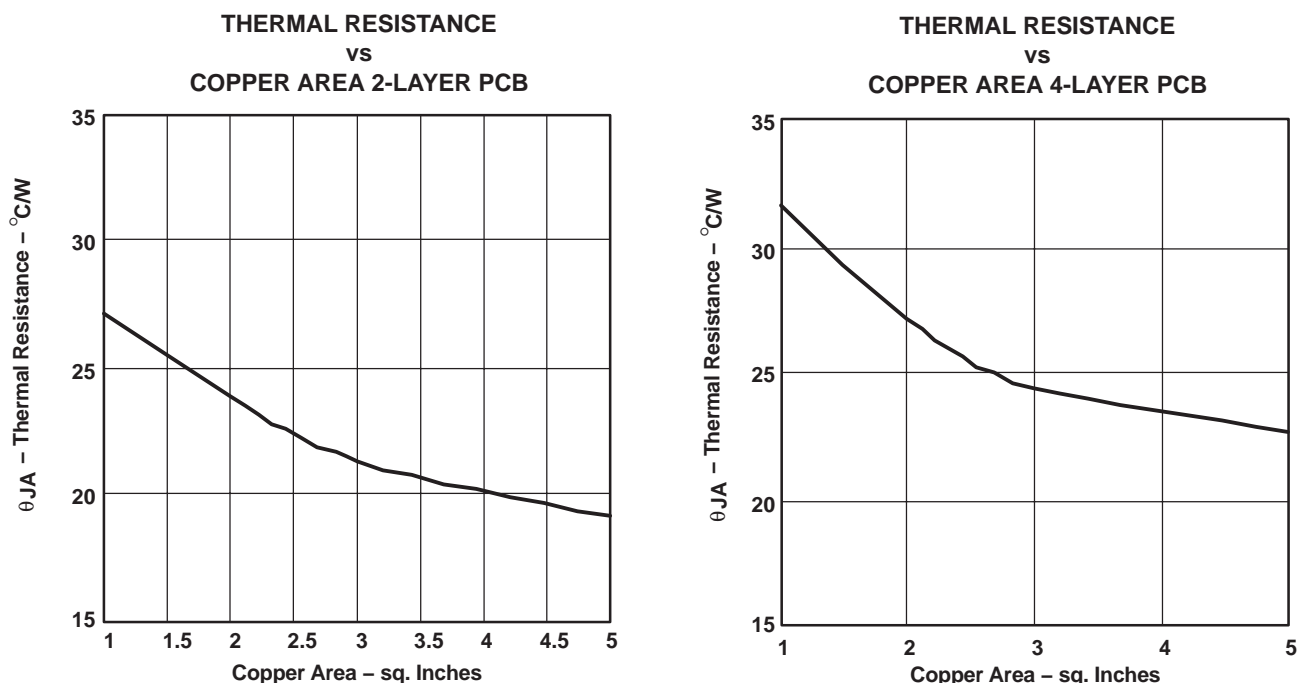
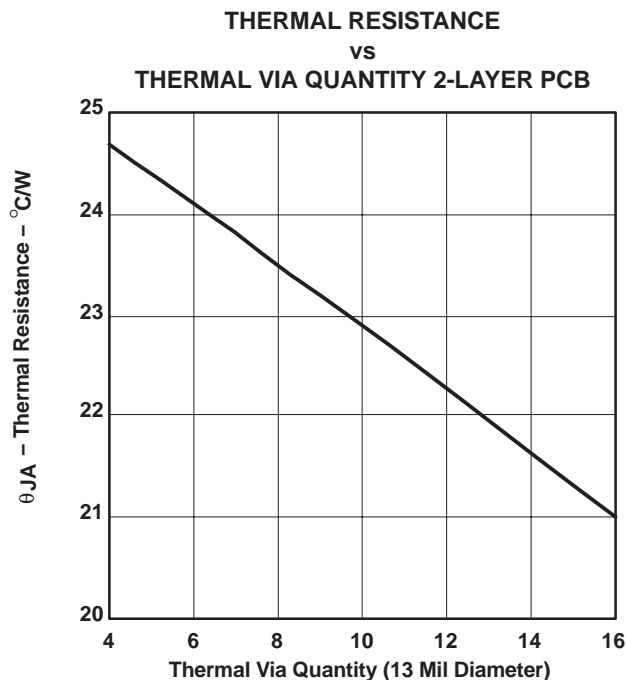

Figure 38. Thermal Resistance
Figure 39. Thermal Resistance
$$\Theta_{JA} = 19^{\circ}C/W \quad (2\text{-Layer PCB, 5 sq. in. copper, see Figure 38)} \quad (8)$$
Figure 38 and Figure 39 show the results of several thermal experiments conducted with the TPA3002D2. Both figures show that the best thermal performance can be achieved with more copper area for heat dissipation and an adequate number of thermal vias.
Figure 38 shows two curves for a 2-layer and 4-layer PCB. The 2-layer PCB layout was tightly controlled with a fixed amount of 2 oz. copper on the bottom layer of the PCB. The amount of copper is shown on the x-axis. Nine thermal vias of 13 mil (0,33 mm) diameter were drilled under the PowerPad and connected to the bottom layer. The top layer only consisted of traces for signal routing.
Figure 39 shows the effect of the number of thermal vias drilled under the PowerPAD on the thermal performance of the PCB. The experiment was conducted with a 2-layer PCB and 3 square inches of copper on the bottom layer. For the best thermal performance, at least 16 vias in a 4x4 pattern should be used under the PowerPAD. Refer to the TPA3002D2 EVM User's Manual (SLOU151), for an example layout with a 4x4 via pattern. PCB gerber files are available at request.